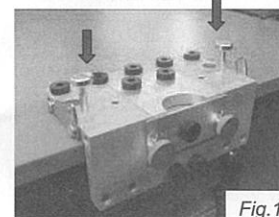

Fig. 1
- 1.1. With an edge distance of 37 mm: Push both locating pins into the provided holes of the jig (*fig. 1*). Slide the jig onto the work piece until both locating pins adjoin the edge of the work piece (*fig. 2*). When using lateral stop plates, the start dimension (half wood thickness) is 9.5 mm (for a panel thickness of 19 mm) (*fig. 3*). Secure the jig by tightening the clamping screw that is attached to the jig body. Now drill the hole with the appropriately adjusted stop ring.